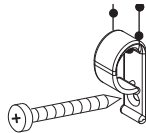

Figure 8
⑧ Cord tension device comes pre-attached to bead chain (see Fig. 8), and must be attached to wall, jamb or sill so that the bead chain is held taut enough that children cannot pull it away from the wall or fit their head into the loop. See safety note on page 1.